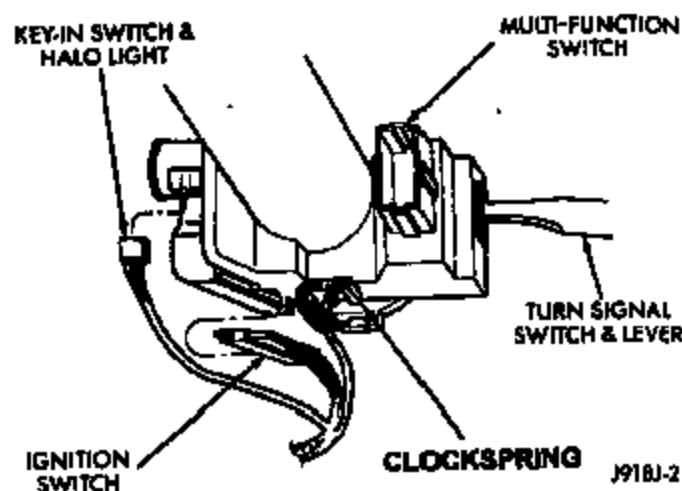

Figure 7
1. Disconnect the ignition switch key-in/halo light electrical connector (Figure 7).
2. Disconnect the clockspring electrical connector from the clockspring (Figure 7).
3. Disconnect the multi-function switch electrical connector (Figure 7).
14. Connect the multi-function switch electrical connector (Figure 7).
15. Connect the clockspring electrical connector (Figure 7).
16. Connect the key-in/halo light electrical connector to the new ignition switch (Figure 7).